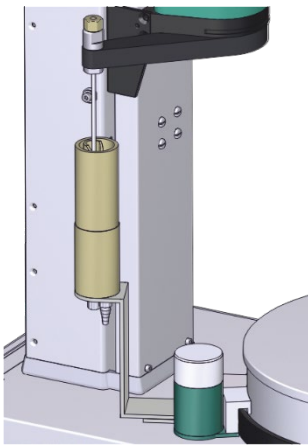

Figure 3. Position of rinsing station and magnetic stirrer.
3. Temporarily attach the rinsing station and the stirrer to the assembly rail as shown in **Figure 3**.